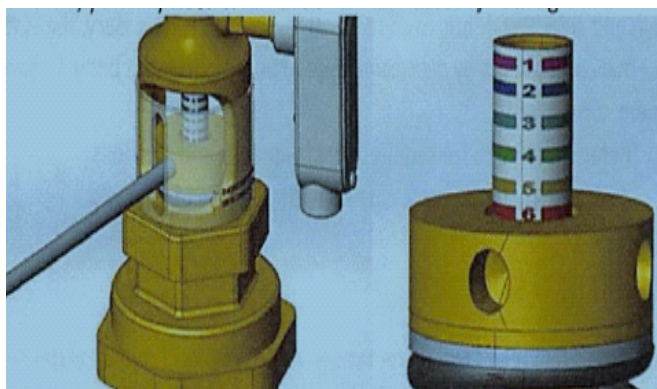

Figure 2: Rotating Spring Controller for Different Valve Settings
2. Rotate the clear cover as required: Insert adjustable tool (provided with the valve) through the slot in the clear cover and into the hole in the Adjustable Spring Controller. See Figure 2.
3. Rotate the Spring Controller until the top of the Spring Controller is aligned with the desired mark on the indication Label (See Figure 2). Turn Clock -Wise to go from Valve Setting number 1 through 6.